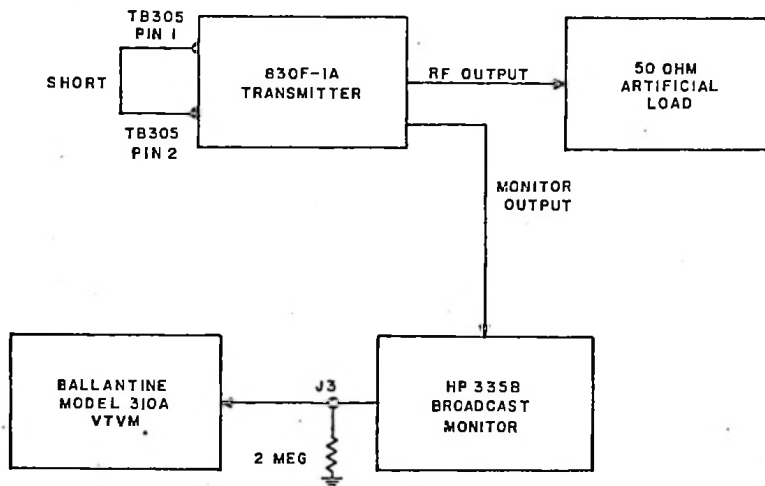

Figure 5-5. AM Noise Test Setup
a. Refer to figure 5-5. Short out terminals 1 and 2 of terminal board TB305. Connect a vacuum-tube voltmeter to connector J3 of the Hewlett-Packard Model 335B broadcast monitor. Connect a 50-ohm artificial load to the r-f output connector located on top of the power amplifier cabinet. Turn on the transmitter.